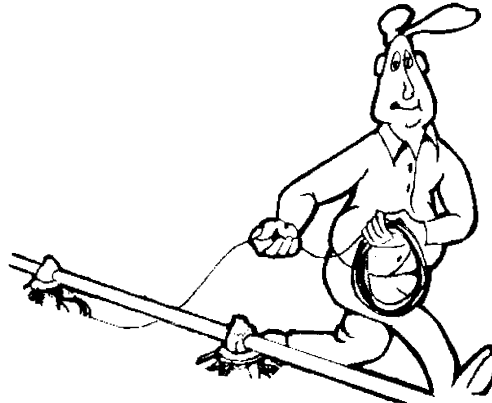

Figure 38. Unrolling the Cable
1. Unroll the bulk anti-roost cable. Note: If the cable is unrolled as shown in **Figure 38**, taking 5 loops of the coil with one hand, then changing hands to remove 5 loops as it is unrolled, it will lie flat during installation.